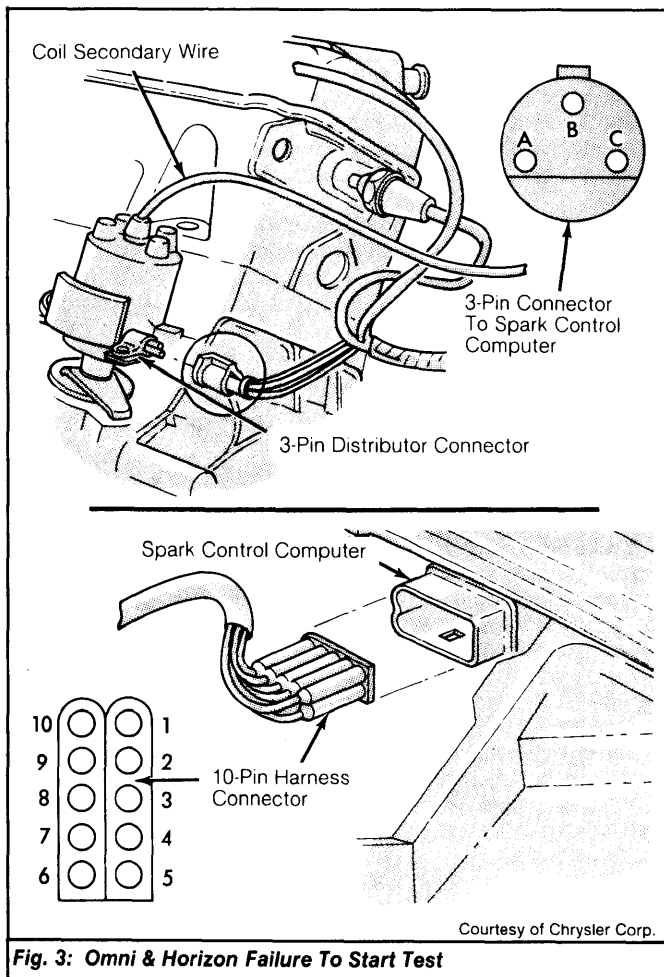

Fig. 3: Omni & Horizon Failure To Start Test
- 4) If spark was obtained in step 2), turn key off and reconnect ignition coil negative terminal wire. Disconnect distributor 3-pin wire harness. See Fig. 3.